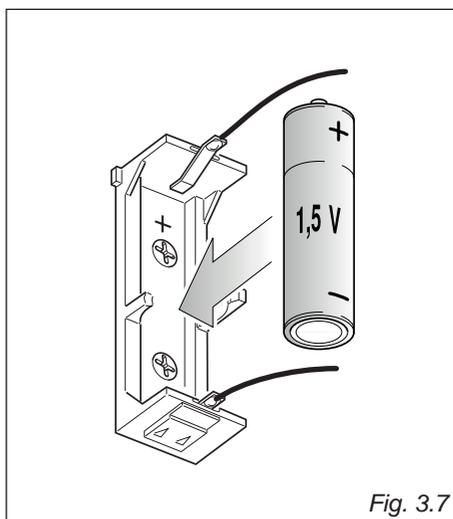

Fig. 3.7
- Insert a type AA battery (1.5 Volt) into the battery holder (fig. 3.7).
- Check for correct polarity (fig. 3.7).